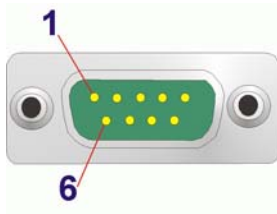

Figure 3-30: Serial Port Connector Pinouts
- CN Pinouts:** See **Table 3-28** and **Figure 3-30**